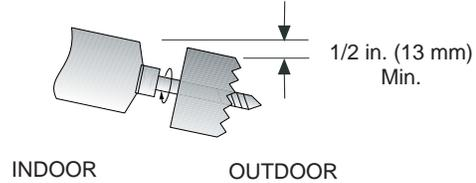

Fig. 29 – Drill Holes
- Determine the pipe hole position using the mounting plate as a template. Drill a pipe hole diameter per the Table 36. The outside pipe hole is 1/2-in. (13 mm) min. lower than inside pipe hole, so it slants slightly downward (see Fig. 29).